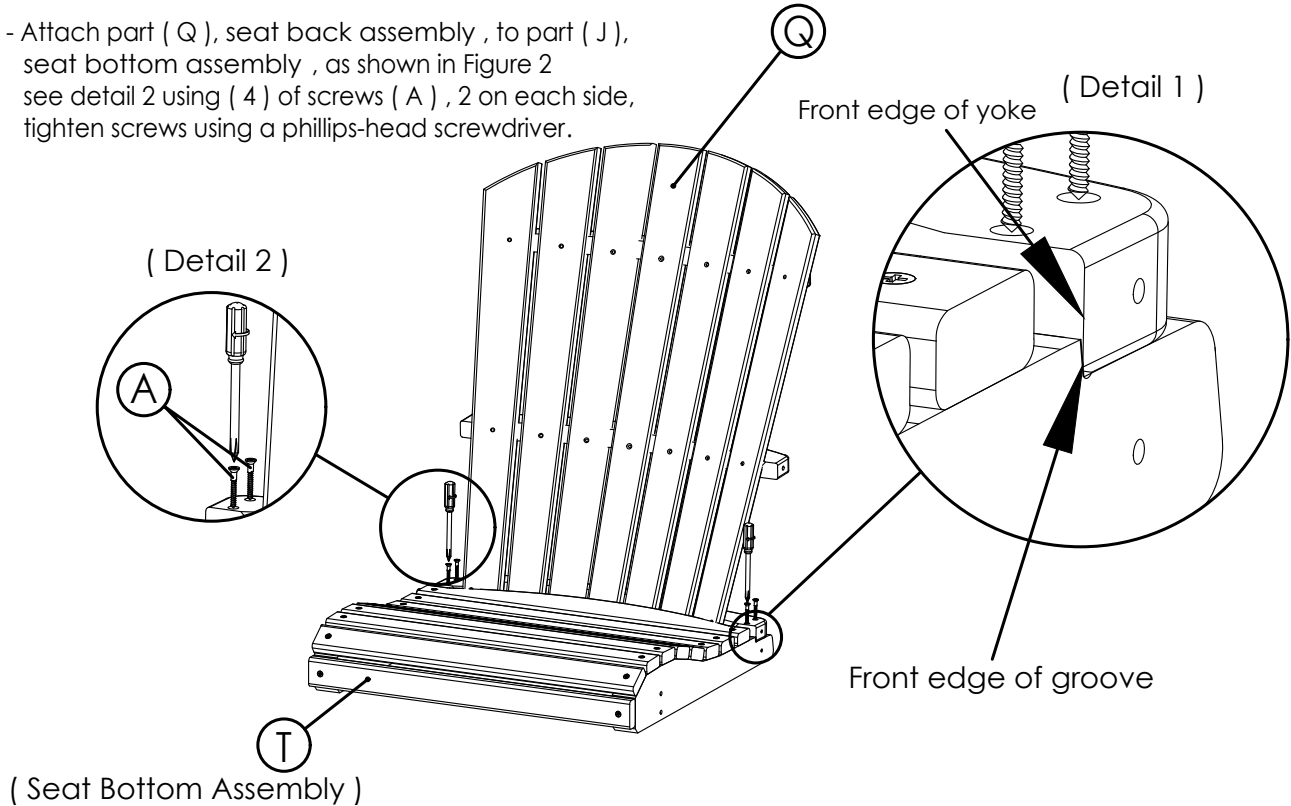

## Figure 2
2.b - Attach part ( Q ), seat back assembly , to part ( J ), seat bottom assembly , as shown in Figure 2 see detail 2 using ( 4 ) of screws ( A ) , 2 on each side, tighten screws using a phillips-head screwdriver.
3.a - Attach part ( K ), right side front and rear leg assembly, to assembly from Figure 2 as shown in Figure 3, make sure identification marks ( FR ) and ( RR ) are facing inside towards the seat see detail 3, using ( 2 ) of joint connector bolts ( B ), ( 2 ) washer ( C ), ( 2 ) lock washer ( D ), ( 2 ) hex nut ( E ), see detail 4 tighten bolts using an allen wrench and also an adjustable wrench. Follow the same instructions for left side front and rear leg assembly.